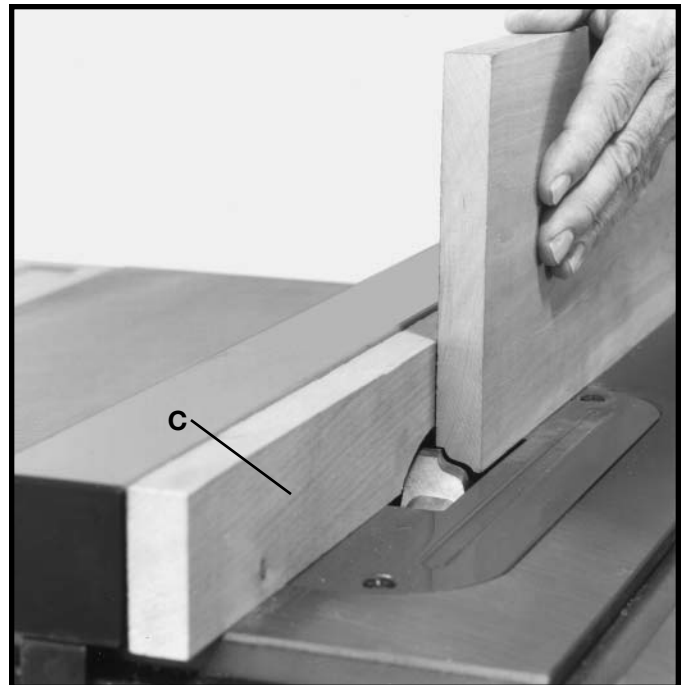

Fig. 54
CAUTION It is necessary when using the moulding cutterhead to add wood-facing (C) to the face of the rip fence, as shown in Fig. 54. The wood-facing is attached to the fence with wood screws through the holes provided in the fence. 3/4 inch stock is suitable for most work although an occasional job may require 1 inch facing.
Position the wood-facing over the cutterhead with the cutterhead below the surface of the table. Turn the saw on and raise the cutterhead. The cutterhead will cut its own groove in the wood-facing. Fig. 54, shows a typical moulding operation.